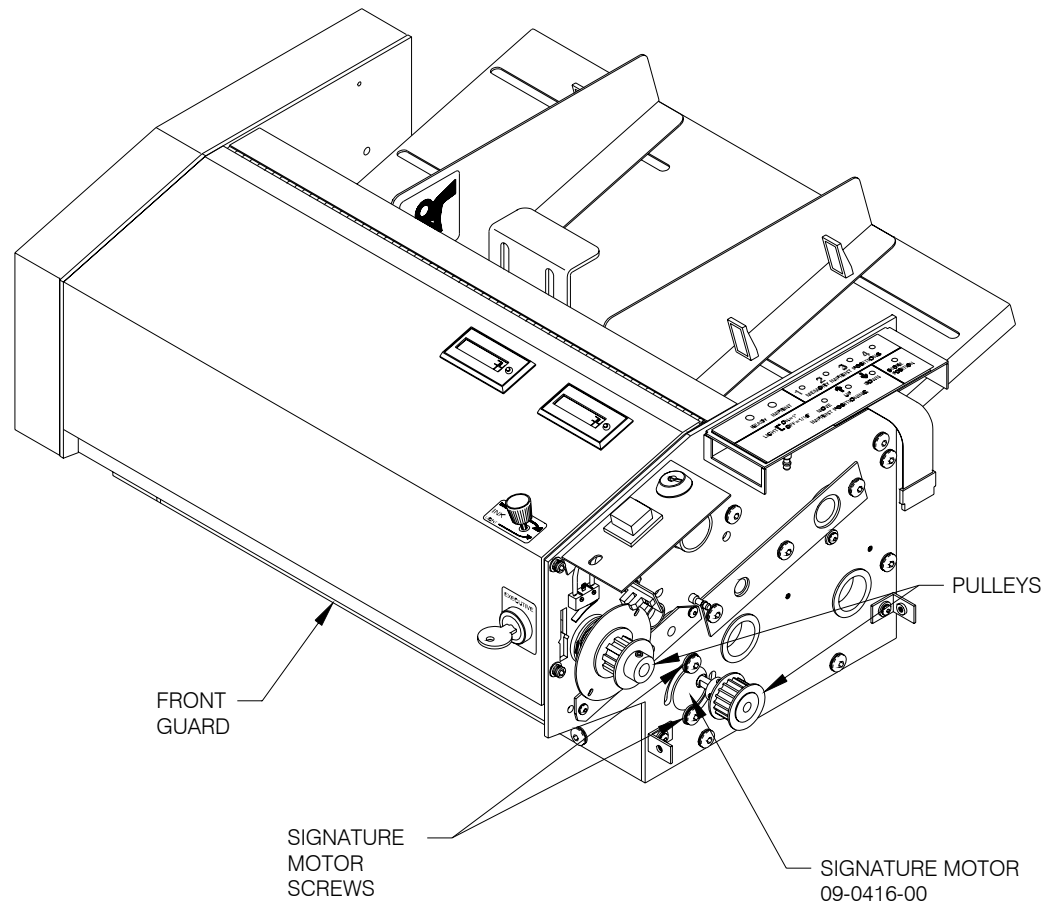

Figure 7.22 -- Replacing the Signature Motor
2. Remove the FRONT GUARD. (Refer to **Figure 7.22.**)
7. Remove the 2 SCREWS holding the SIGNATURE MOTOR to the SIDE FRAME and pull the SIGNATURE MOTOR out of the BASE. (Refer to **Figure 7.22.**)